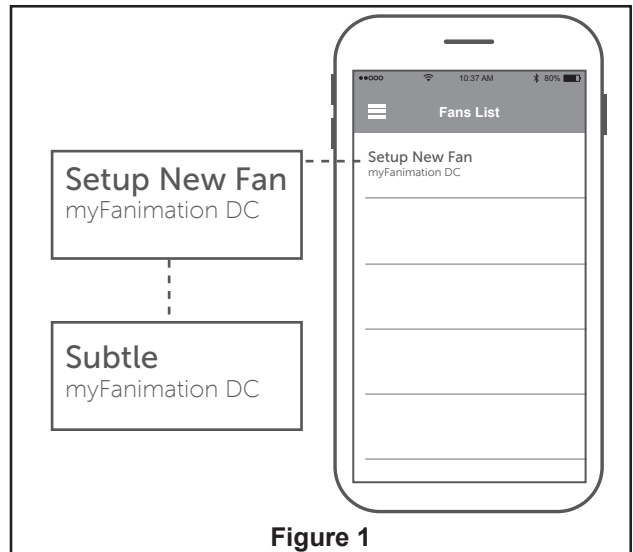

Figure 1
1. Open the fanSync app and tap the new fan to begin setup. (Figure 1)